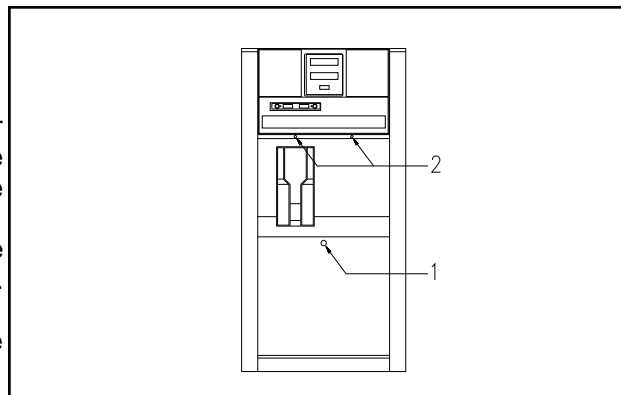

Figure 2
1. Use the Bennett 001 key to remove the lower door (1) on the junction box side of the dispenser. See Figure 2. Set the doors aside in a protected area to avoid damage.
2. Remove the two screws (2) that hold the nozzle boot cover to the frame. See Figure 2. Remove the cover and set aside.